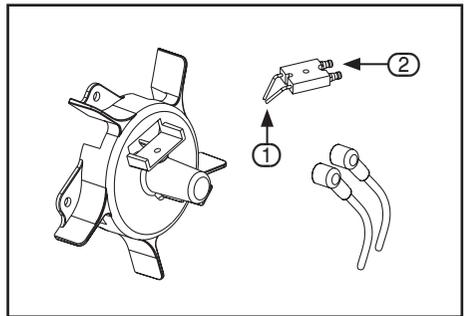
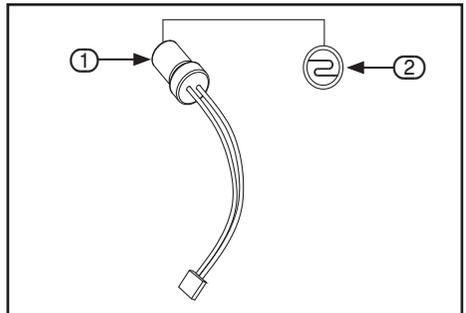
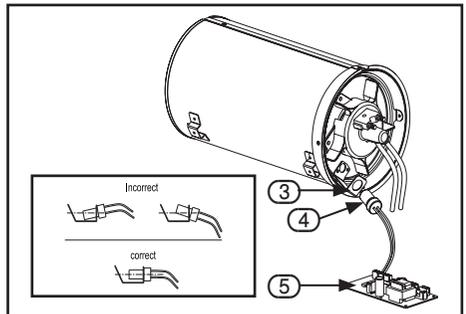
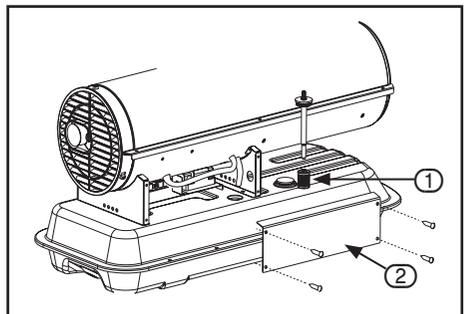

FIG.9
FIG.10
FIG.11
FIG.12
11.5 SPARK PLUG – FIG.9
- Clean and re-gap every 600 hours of operation, or replace as needed. After removing the Spark Plug (2), clean the terminals with a wire brush. Re-gap (1) the terminals to 3.5mm.
11.6 PHOTOCELL – FIGS.10–11
- The Photocell (1) should be cleaned at least once per heating season or more depending on conditions. Use a cotton swap dipped in water or alcohol to clean the lens (2) of the Photocell.
- Reposition the photocell correctly – Fig.11.
- (3) Photocell bracket.
- (4) Photocell.
- (5) PC board.
11.7 FUEL FILTER – FIG.12